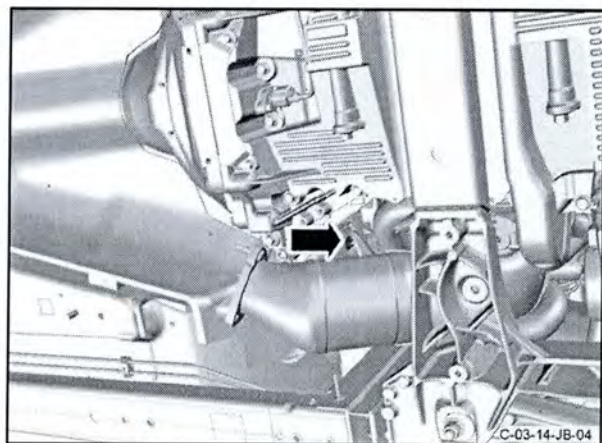

Figure 40
81. Install the nut that attaches the heat shield for the front floor to the body (refer to Figure 40). Torque the nut to 9 Nm.